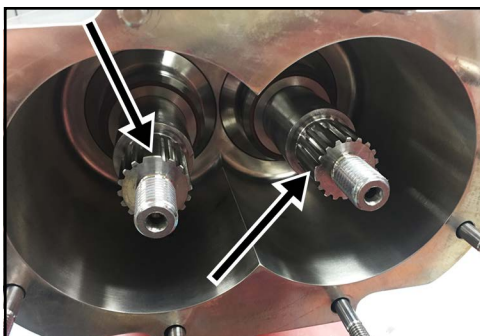
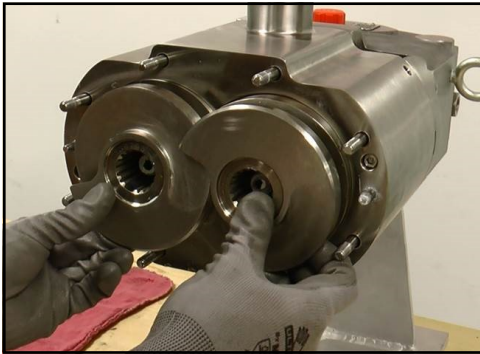

Figure 111 - Align screw and shaft spline
Figure 112 - Install screws
3. Look at the position of the indexing tooth on each shaft spline and roughly align the screw splines to match as shown in Figure 111.
5. (All sizes except 220-UTS) Making sure each screw spline roughly matches the indexing tooth of each shaft spline (see arrows in Figure 111 on page 54), slide the screws onto the shafts as a pair, as shown in Figure 112.